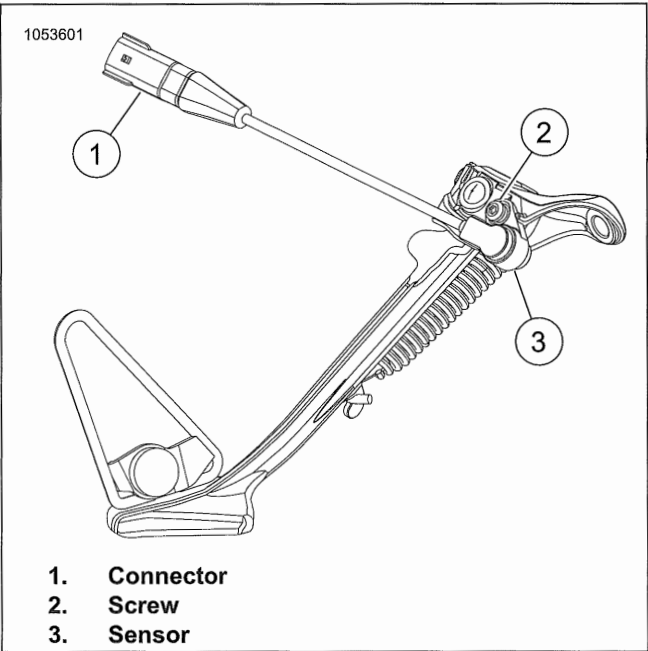

Figure 7-135. Jiffy Stand (HDI)
1. See Figure 7-135. Disconnect connector (1).
1. See Figure 7-135. Install jiffy stand sensor (3).
2. Install screw (2). Tighten.